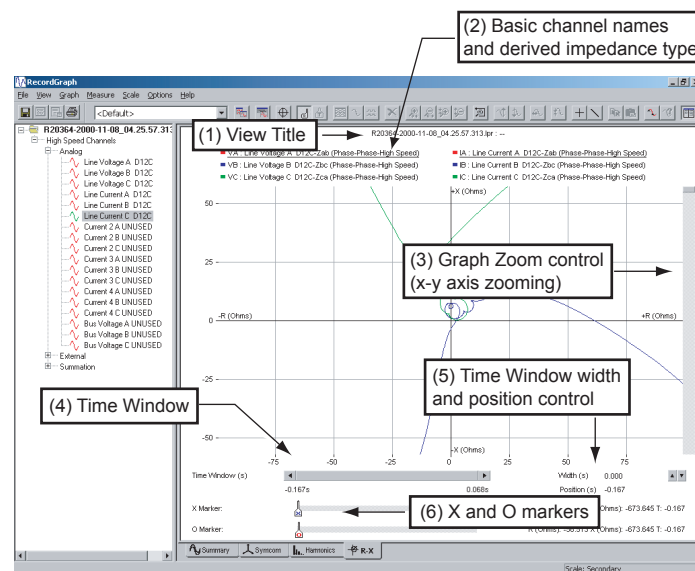

Figure 10.65: Opening Impedance Screen
- A text component displays the title at the top of the Impedance View shown in Figure 10.65: Opening Impedance Screen. The title is compiled from items in the Title Options dialog box. Default title is the file name and trigger event.